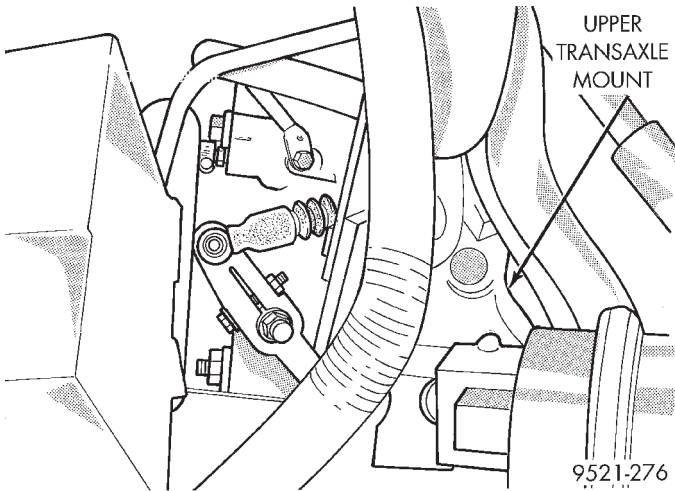
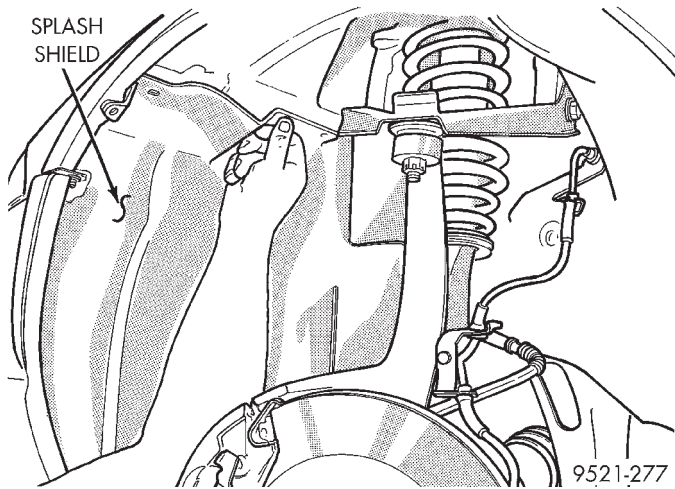

Fig. 48 Upper Transaxle Mount
Fig. 49 Lower Splash Shields
- (9) Remove left upper transaxle mount top bolts (Fig. 48).
- (10) Raise vehicle. Remove front wheels. Refer to Group 2, Suspension to remove wheel hub nuts and both drive shafts.
- (11) Remove left and right side lower splash shields (Fig. 49).